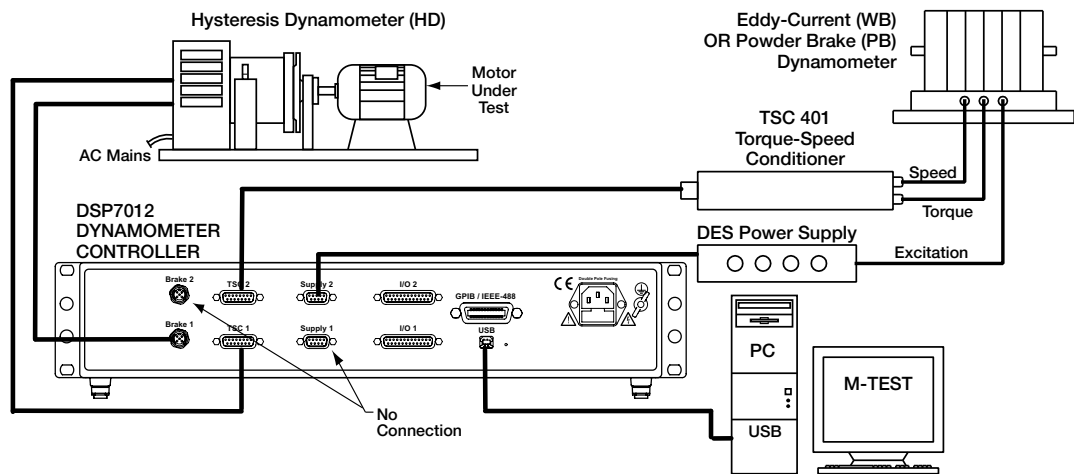
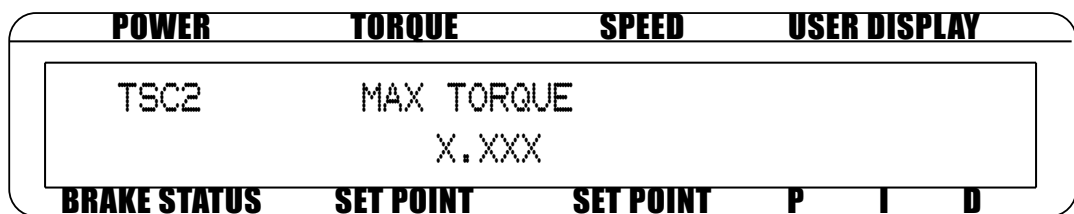
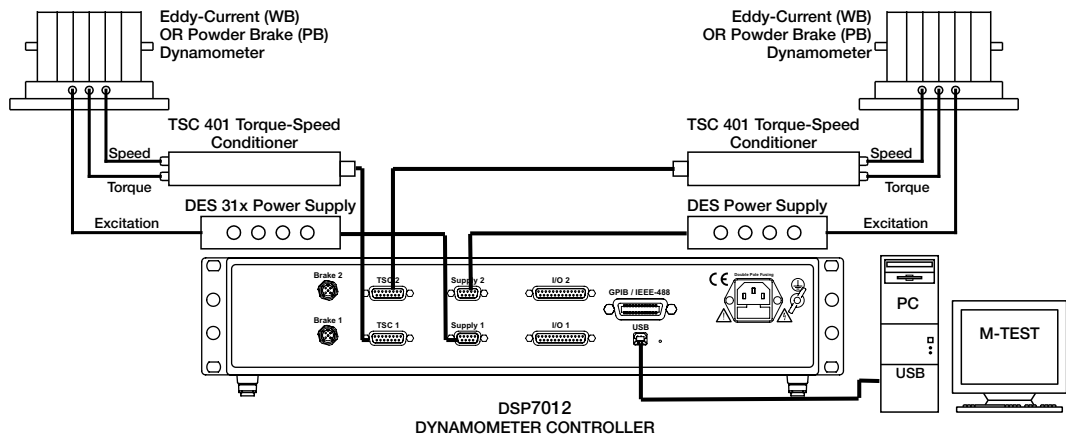

Fig.3-13 Hysteresis Dynamometer with Eddy-Current or Powder Brake Setup
Fig.3-14 TSC2 Eddy-Current Setup Menu
Fig.3-21 Two Eddy-Current/Powder Brake Dynamometers (Independent Setup)
5. If using an Eddy Current Dynamometer, press [SHIFT]. The display should appear as shown in Figure 3-13 TSC2 Eddy-Current Setup Menu. Press [TORQUE UNITS]. Use ◀ and ▶ and the dial to set desired max torque. Press [SCALE P]. Use ◀ and ▶ and the dial to set desired nominal speed. Press [SHIFT] 2 times to return to the setup menu. The display will appear as follows:
6. If using a Powder Brake Dynamometer, press [SHIFT]. The display should appear as shown in Figure 3-14 TSC2 Powder Brake Setup Menu. Press [TORQUE UNITS]. Use ◀ and ▶ and the dial to set desired max torque. Press [SHIFT] 2 times to return to the setup menu. See Figure 3-21 Tandem Setup Menu.
5. If using an Eddy Current Dynamometer, press [SHIFT]. The display should appear as shown in Figure 3-13 TSC2 Eddy-Current Setup Menu. Press [TORQUE UNITS]. Use ◀ and ▶ and the dial to set desired max torque. Press [SCALE P]. Use ◀ and ▶ and the dial to set desired nominal speed. Press [SHIFT] 2 times to return to the setup menu. See Figure 3-21 Tandem Setup Menu.
11. Press [SHIFT] to get to the TSC2 Powder Brake Setup Menu. See Figure 3-14 TSC2 Powder Brake Setup Menu.
13. Press [SHIFT] 2 times. The menu will appear as shown in Figure 3-21 Tandem Setup Menu.